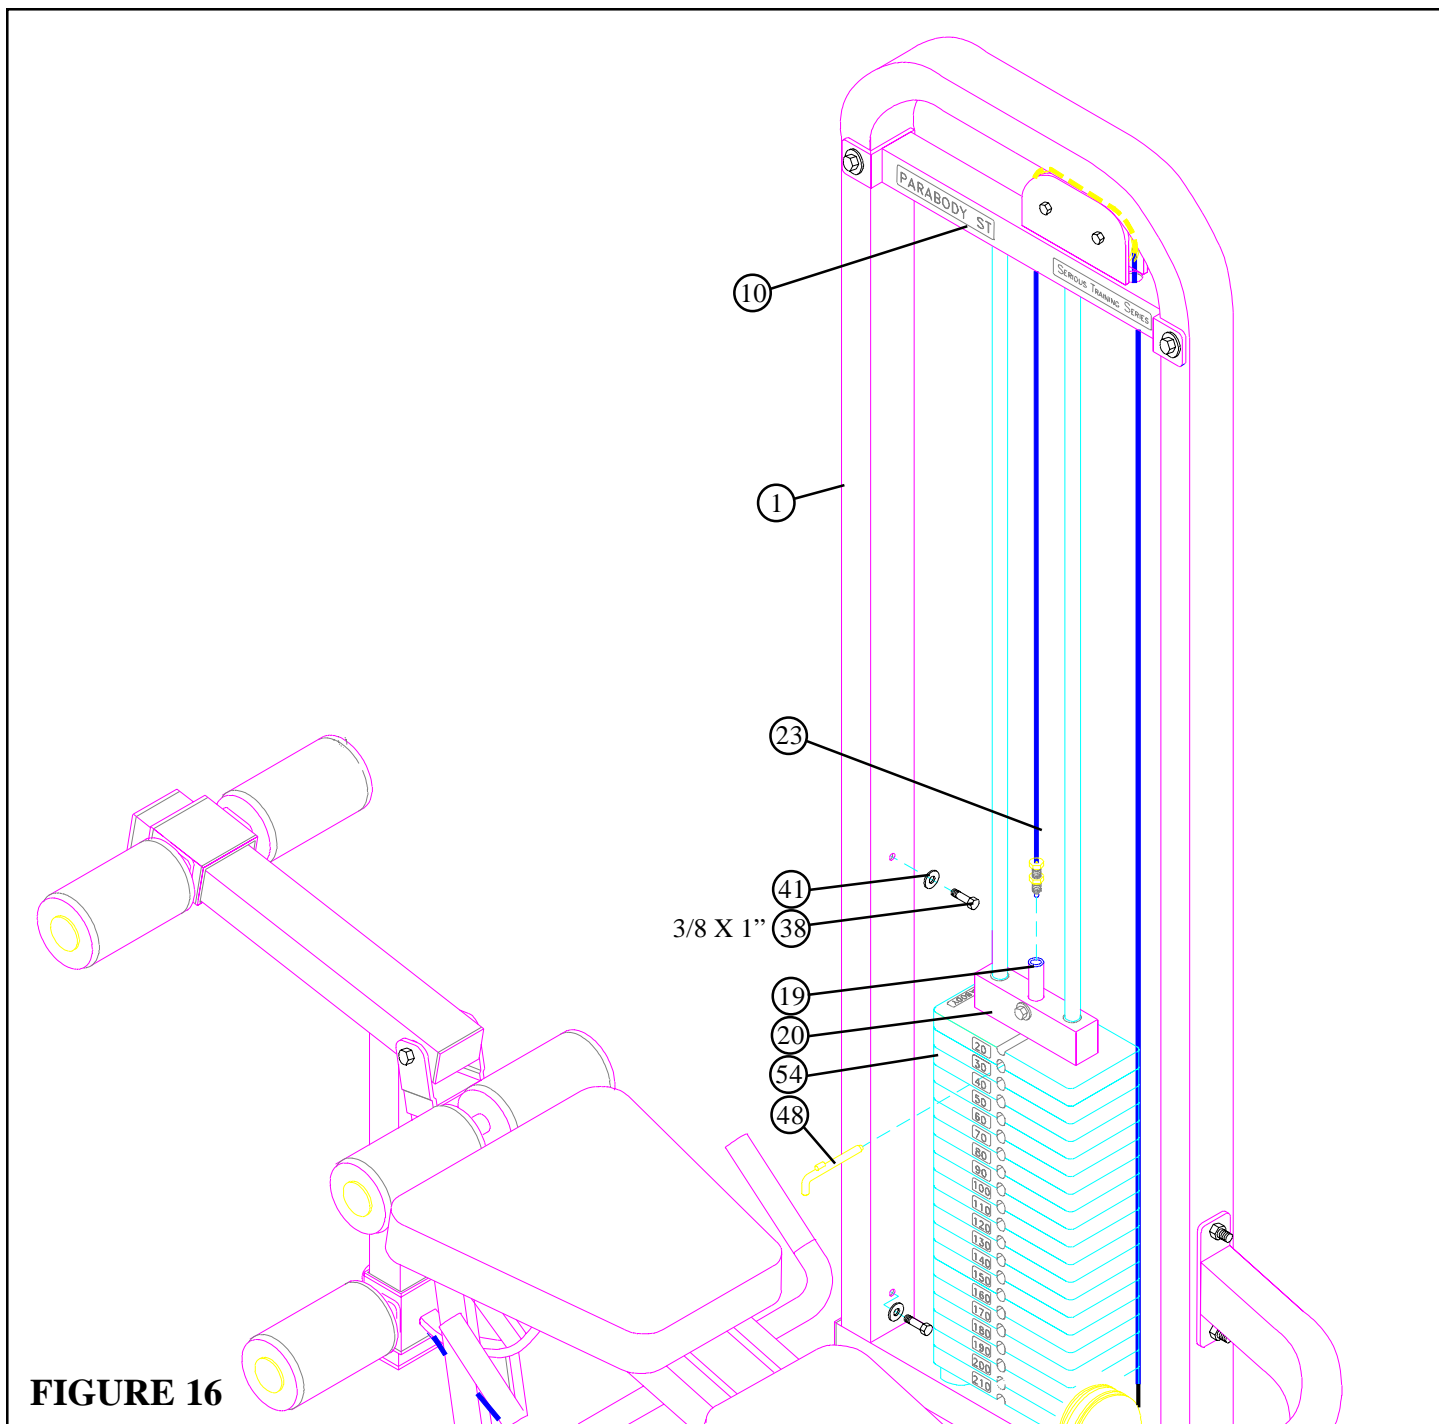

**FIGURE 15**
- **SECURELY** assemble three 4-1/2" PULLEYS (21) to the brackets on the BENCH FRAME (7) and LOWER CROSS SUPPORT (8), using three 3/8 X 2" BOLTS (37), one 2-7/8" L-BRACKET (27), and three 3/8" LOCK NUTS (44) as shown in FIGURE 15.
- Make sure the CABLE (23) is routed around all pulleys as shown in FIGURE 15.